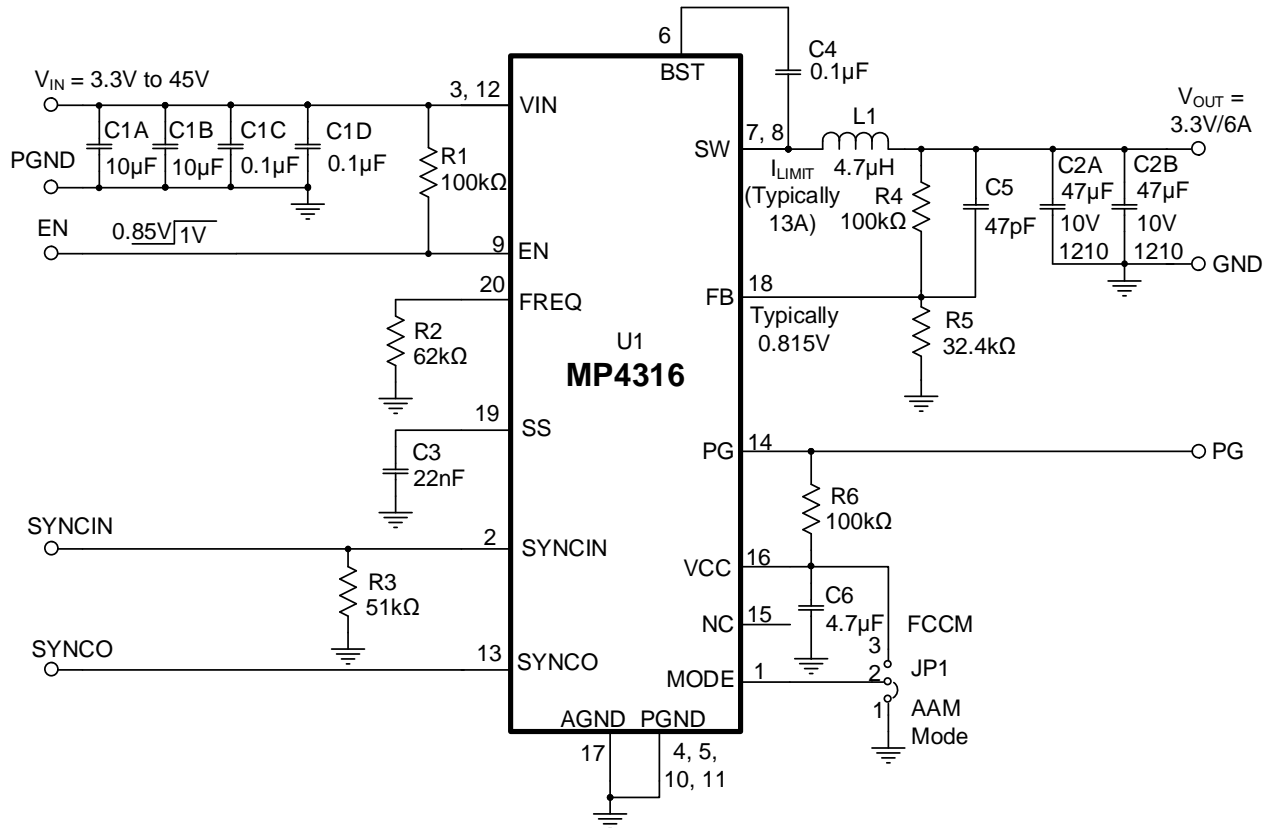

Figure 10: Typical Application Circuit ($V_{OUT} = 3.3V$, $f_{SW} = 470kHz$)
10) The recommended PCB layout is based on Figure 10 on page 34.